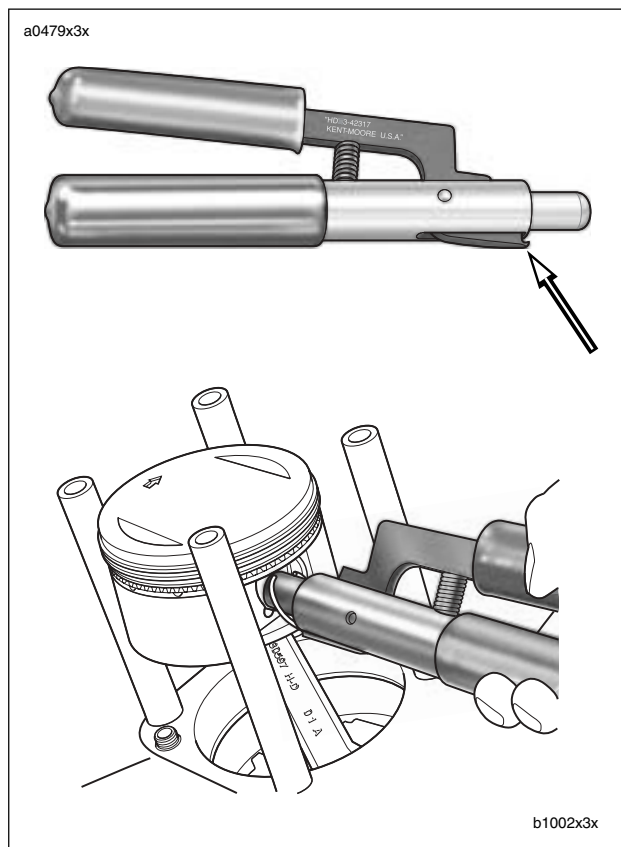

Figure 3-71. Removing Piston Pin Circlip Using Piston Pin Circlip Remover/Installer (Part No. HD-42317)
- a. See Figure 3-71. Insert the PISTON PIN CIRCLIP REMOVER/INSTALLER (HD-42317) into the piston pin bore until claw on tool is positioned in slot of piston (directly under circlip).